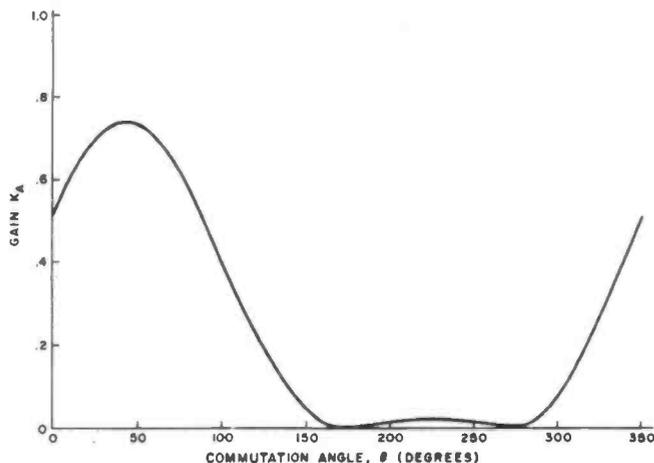

Figure 5: Theoretical gain variation for antenna 'A' required to produce an equivalent continuously rotating antenna signal.
The mixing is not perfect since rf voltages rather than phase angles are being mixed; the errors, however, are small, as discussed below. The gain for antenna A is given in Equation (11), which is shown plotted in Fig 5 over one cycle of rotation in θ . Note that the gain peaks, as would be expected, at 45 degrees where the imaginary antenna is closest to antenna A. A second small gain increase also occurs 180 degrees from this location. The other antenna gains, K_B, K_C and K_D , have identical shapes to K_A , but are displaced 90 degrees in phase (K_B lags K_A by 90 degrees, etc).